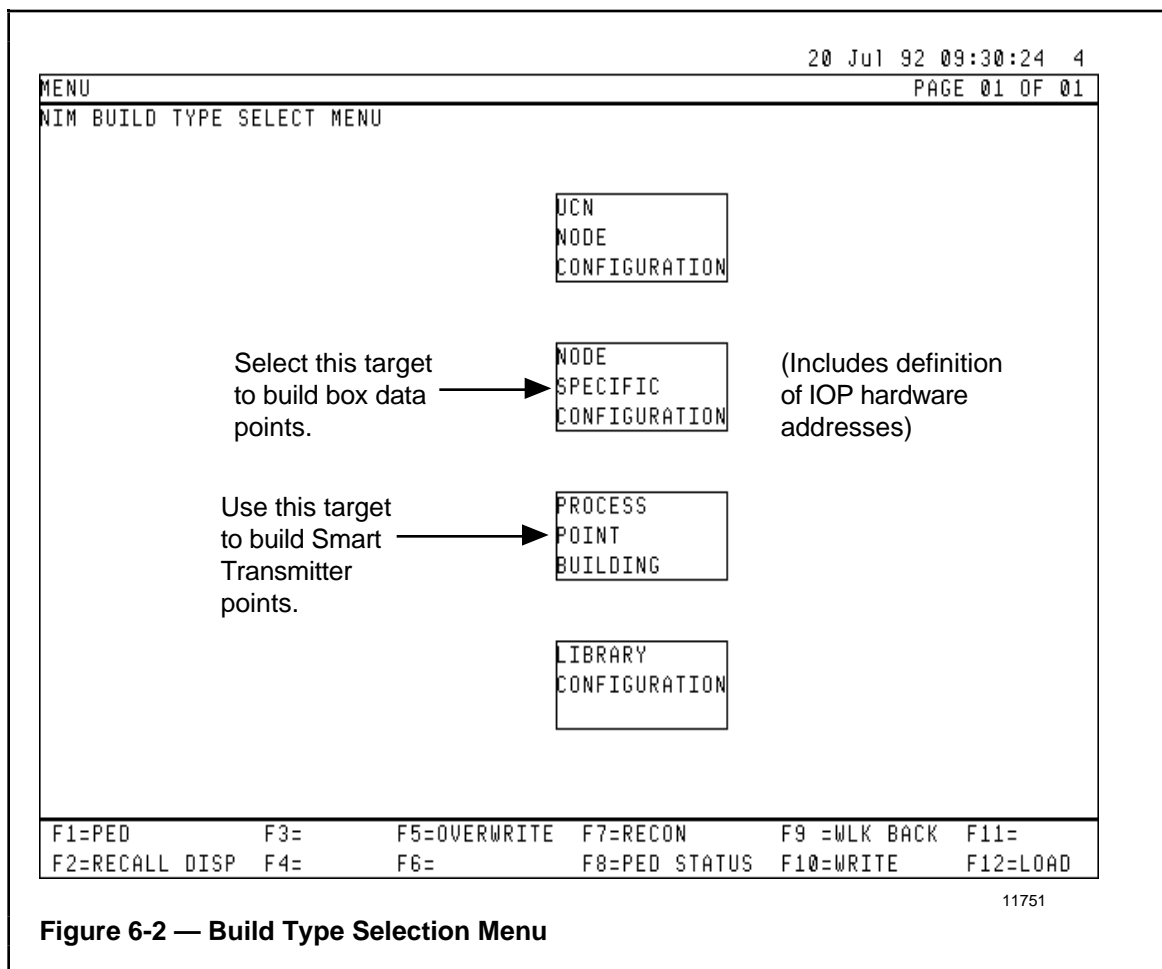

Figure 6-2 — Build Type Selection Menu
A variety of Parameter Entry Displays (PEDs) exist under the **NETWORK INTERFACE MODULE** target for configuration of UCN network data points, box data points, and process data points. When this target is selected, the menu shown in Figure 6-2 is produced.
1. Select PROCESS POINT BUILDING from the NIM menu (see Figure 6-2). The point type menu appears.